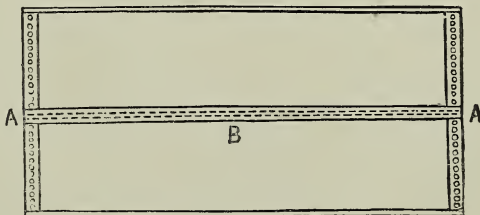

Fig. 1.
Now with respect to making a hammock, the first thing necessary is a piece of strong canvas, about 5 ft. 8 in. in length and 3 ft. wide. In the Navy hammocks are made in two pieces (Fig. 1), which are stitched together down the centre (B). The sides and ends must be hemmed, and then the eyelet-holes for the clews to be fastened to must be made (A A). The eyelet-holes are twenty-four in number, at equal distances along the edge, at each end of the hammock. They are usually made in the following manner, although it is not absolutely necessary to be so particular.